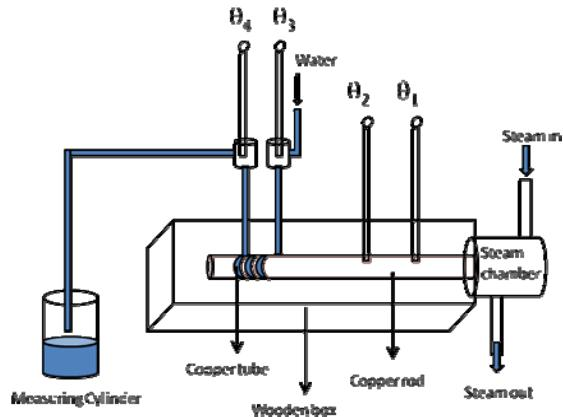

Fig.01
' $m$ ' is the mass of water, ' $s$ ' is specific heat of water, ' $t$ ' is the time of flow of water in steady state, ' $A$ ' is the area of cross section of copper rod, ' $d$ ' is the distance between the thermometer  $T_1$  and  $T_2$  and  $\theta_1, \theta_2, \theta_3, \theta_4$  are the temperatures of thermometer  $T_1, T_2, T_3$  and  $T_4$  respectively ( Fig.01).
3. Mount the thermometers  $T_3$  and  $T_4$  as shown in Fig.01.
11. Calculate the coefficient of thermal conductivity (K) of given material of rod using given formula.